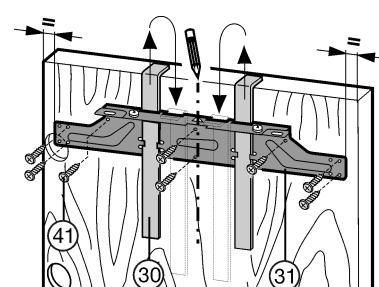

Fig. 22
- Unscrew the crosspiece Fig. 22 (31) by undoing the lock-nuts Fig. 22 (32).
► Hang the crosspiece Fig. 22 (31) on the inside of the unit door using the fitting aids Fig. 22 (30).
- To center the crosspiece Fig. 22 (31): Mark a short center line on the unit door and place the tip of the arrow on the crosspiece over it.
- To align the crosspiece Fig. 22 (31): Mark a short center line on the unit door and place the tip of the arrow on the crosspiece over it. Now shift the crosspiece Fig. 22 (31/7/32 " (5.5 mm) towards the hinge side.
- Fasten the crosspiece Fig. 22 (31) with at least 6 screws Fig. 22 (41).
- Fasten the crosspiece Fig. 22 (31) with 4 screws Fig. 22 (41) at the edge.
- Lift up the fitting aids Fig. 22 (30), turn them around, and insert them into the adjacent openings.